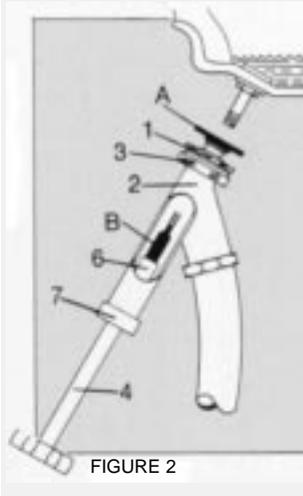

FIGURE 2
To connect liquid fill core ejector to 1 piece style front tractor valves TR415, TR413 (figure 2), screw adapter (A) and gasket to union (1). Insert large end of core remover (B) securely into chuck of core housing ejector (6). Screw adapter and union assembly on valve stem finger tight. Screw ejector union and adapter assembly to core ejector body making sure gasket is in place. The rest of the operation is the same as with the above 2 piece valve as described above.